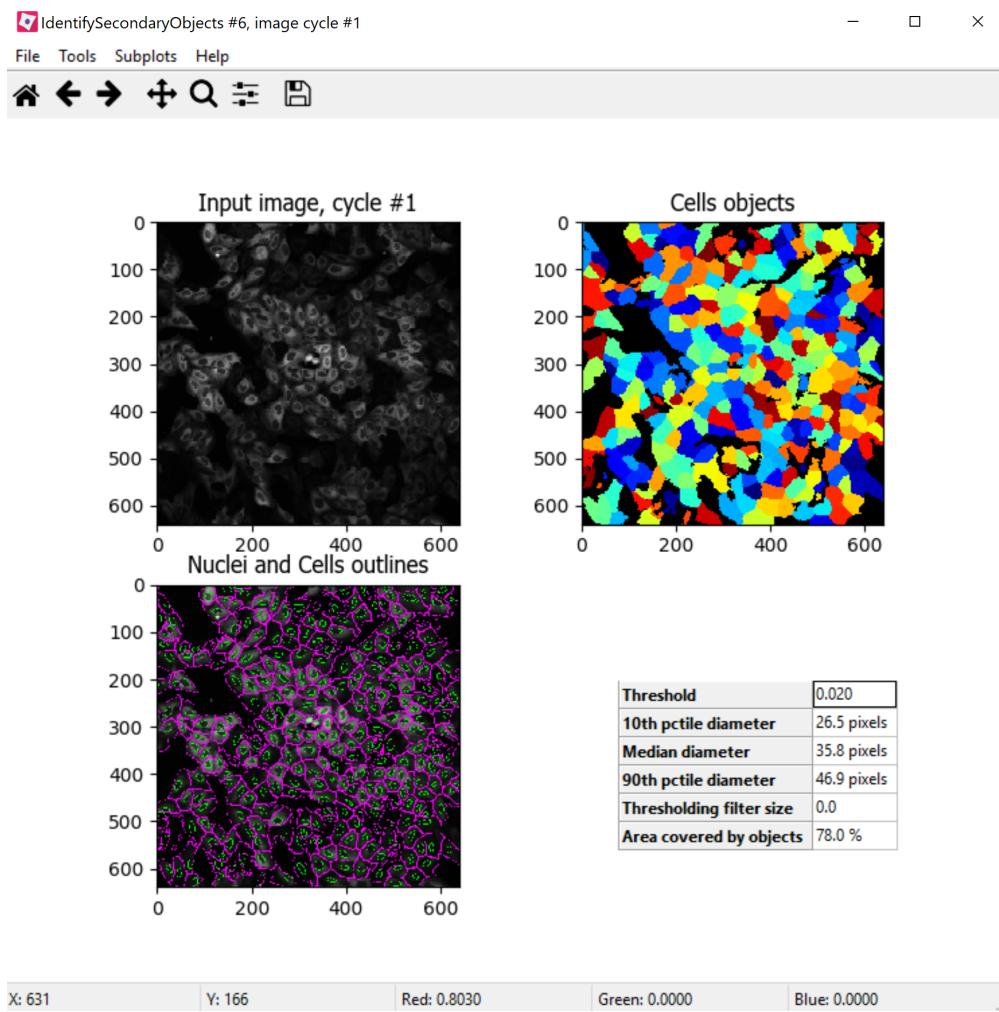

Figure 4: Example module display window for *IdentifySecondaryObjects*.
- Click on the "Step" button to execute the module and see the results of secondary object identification using the module settings (Fig. 4).